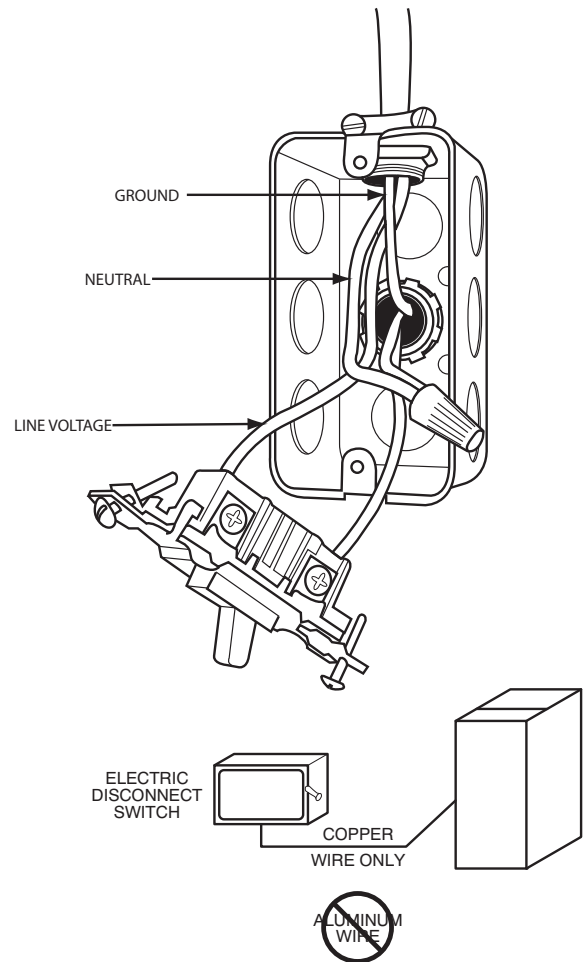

Fig. 34 – Field-Supplied External Electrical Box on Furnace Casing
Do not connect aluminum wire between disconnect switch and furnace. Use only copper wire. See Fig. 34.
1. Drill two (2) 1/8-in. (3 mm) pilot holes through the dimples in the furnace casing near the 7/8-in. knock-out on the side of the casing. Do not remove the knock-out in the side of the casing.
9. Connect field power and neutral leads to furnace power leads inside the external electrical box as shown in Fig. 34.